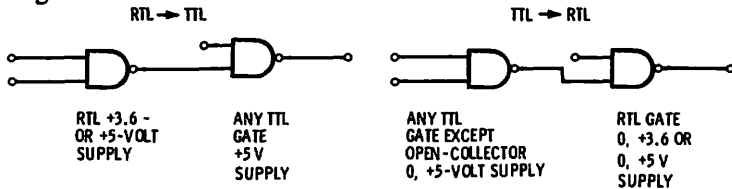

Fig. 1-12. RTL-to-TTL and TTL-to-RTL interfacing.
Interfacing between logic families is usually easy to do, but there are several problems. You must select the supply and ground connections between the families to optimize the logic states. You have to honor the output voltage and current swings of the one logic family and provide the minimum 1 and 0 conditions of the other. For detailed interfacing information, you have to carefully study the manufacturer's data on the IC line to be interconnected. However, Figs. 1-12 through 1-16 give some general interface guidelines that usually work.
**RTL—RTL to TTL or vice versa may be directly connected (Fig. 1-12).** Grounds of both systems are common, and the RTL may be driven from its usual 3.6-volt positive supply or from a 5-volt TTL supply. No RTL loads should be presented to an RTL device that is driving TTL.